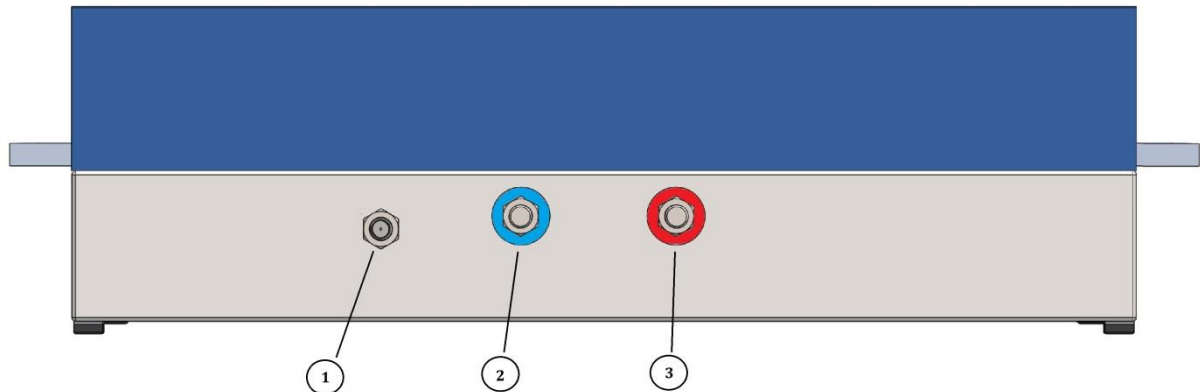

Fig. 2: back device panel
4. To measure output voltage ripple it's necessary to connect an oscilloscope cable, that is a part of the package, to BNC connector (1 - fig. 2).